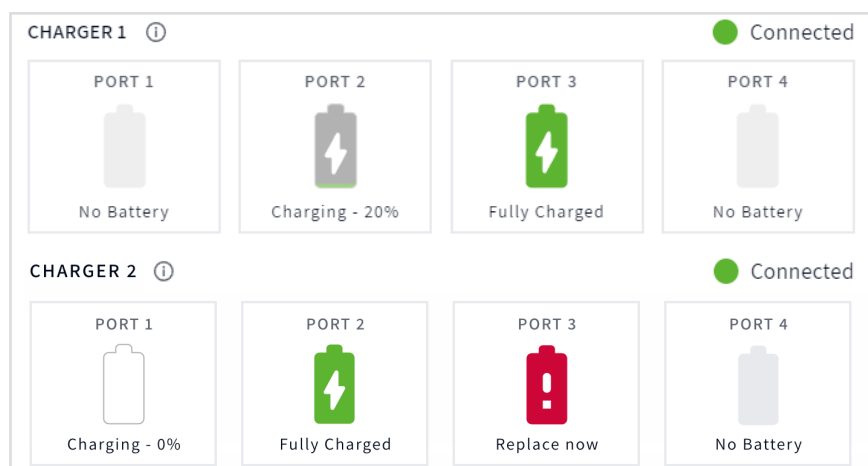

Fig. 1.10b
**Note:** The Base Station can support two AC70 Chargers. When the **Chargers** tile on the HOME screen is tapped, both chargers will be visible (if both are within Base Station range), see Fig. 1.10b. Also, when a battery has exhausted its life, the charger screen will prompt you to replace the battery. See the example shown in Fig. 1.10b (Charger 2 Port 3).